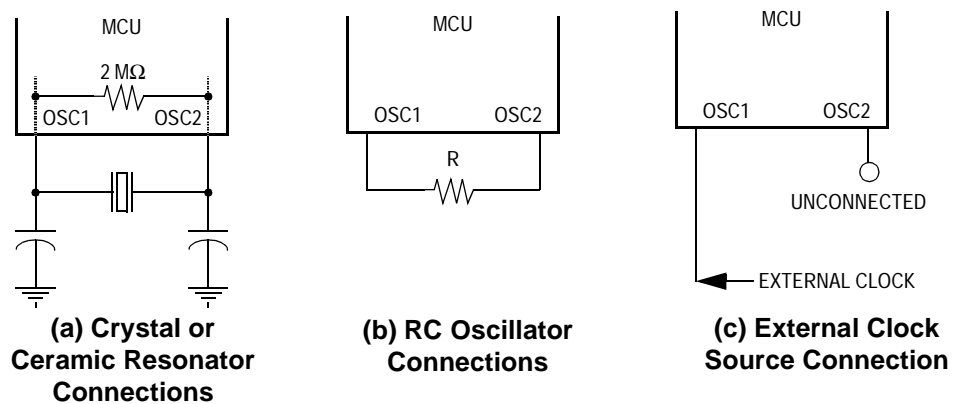

Figure 1-3. EPO Oscillator Connections
- A crystal as shown in Figure 1-3 \(a\)
- A ceramic resonator as shown in Figure 1-3 \(a\)
- An external resistor as shown in Figure 1-3 \(b\)
- An external clock signal as shown in Figure 1-3 \(c\)
The circuit in **Figure 1-3 (a)** shows a typical oscillator circuit for an AT-cut, parallel resonant crystal. The crystal manufacturer's recommendations should be followed, as the crystal parameters determine the external component values required to provide maximum stability and reliable startup. The load capacitance values used in the oscillator circuit design should include all stray capacitances. The crystal and components should be mounted as close as possible to the pins for startup stabilization and to minimize output distortion. An internal startup resistor of approximately $2\text{ M}\Omega$ can be provided between OSC1 and OSC2 for the crystal type oscillator by use of the OSCRES bit in the MOR.
In cost-sensitive applications, a ceramic resonator can be used in place of the crystal. The circuit in **Figure 1-3 (a)** can be used for a ceramic resonator. The resonator manufacturer's recommendations should be followed, as the resonator parameters determine the external component values required for maximum stability and reliable starting. The load capacitance values used in the oscillator circuit design should include all stray capacitances. The ceramic resonator and components should be mounted as close as possible to the pins for startup stabilization and to minimize output distortion. An internal startup resistor
The lowest cost oscillator is the RC oscillator configuration where a resistor is connected between the two oscillator pins as shown in Figure 1-3 \(b\).
An external clock from another CMOS-compatible device can be connected to the OSC1 input, with the OSC2 input not connected, as shown in Figure 1-3 \(c\). This oscillator can be selected via software. This configuration is possible regardless of whether the crystal/ceramic resonator or RC oscillator configuration is used.